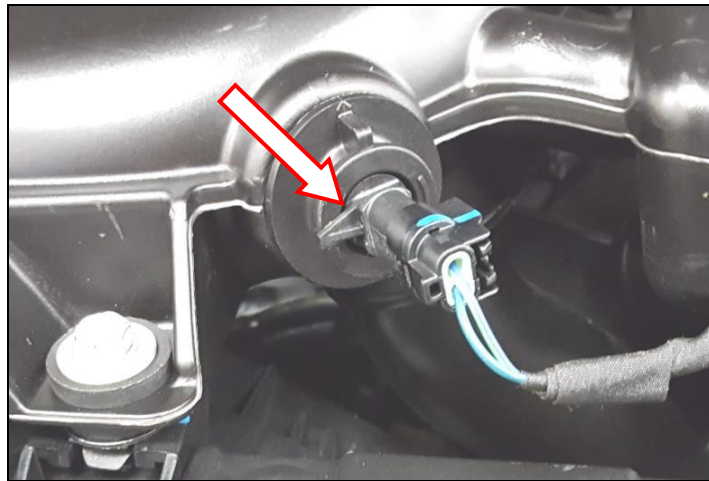

Figure 9
15. Remove air intake temp sensor from OE intake tube by lightly lifting up on position tab with a screwdriver (or equivalent), rotating counterclockwise, and pulling out. **Be careful not to use too much pressure prying on sensor tab (Figure 9).**